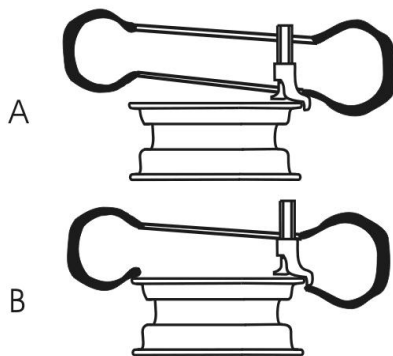

Fig. 27
- Adjust relative position between the tire and the mount/demount head to make the tire bead cross the mount/demount head. At the end of the mount/demount head, the tire bead should be placed on the mount/demount head (Fig.27-A). At the beginning of the mount/demount head, the tire bead should be placed under the ball protuberance of the mount/demount head (Fig.27-B).